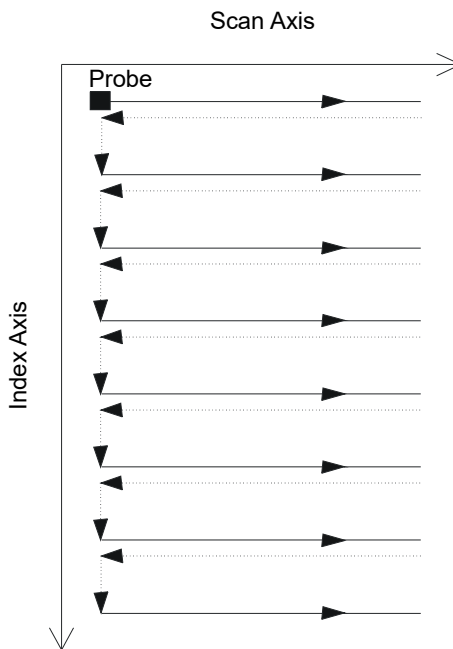

Figure 5-6 Unidirectional surface scan
A surface scan uses two axes: (1) the scan axis, which is the mechanical axis of the scanning lines and (2) the index axis, which is the mechanical axis of movement between the scanning lines. At the end of each scan along the scan axis, an increment is added to the position along the index axis. Data acquisition for unidirectional sequences is carried out in one direction only along the scan axis, as shown in Figure 5-6 on page 301. This type of scanning sequence is typically used with scanning mechanisms revealing a rather large backlash phenomenon in scan direction.